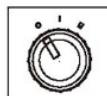

Fig1
- Turn the Power Switch Knob to [OFF] position (Fig. 1).